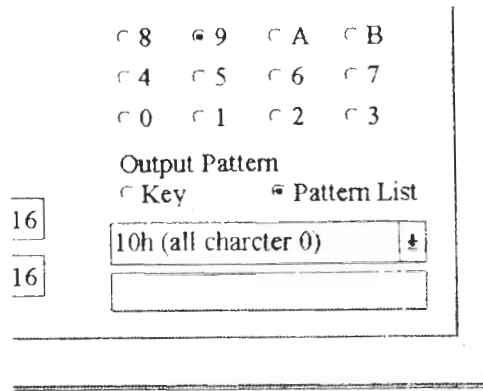

Figure 5-1
- (1) Select the "Pattern List" from the "Output Pattern" menu. See Figure 5-1.